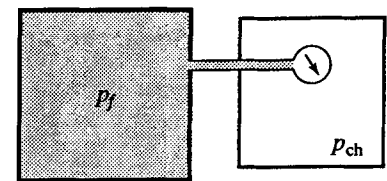

Figure X3.4.1b
3.4.2 A gage is connected to a tank in which the pressure of the fluid is 305 kPa above atmospheric (Fig. X3.4.1a). If the absolute pressure of the fluid remains unchanged but the gage is in a chamber where the air pressure is reduced to a vacuum of 648 mmHg (Fig. X3.4.1b), what reading in kPa will then be observed?